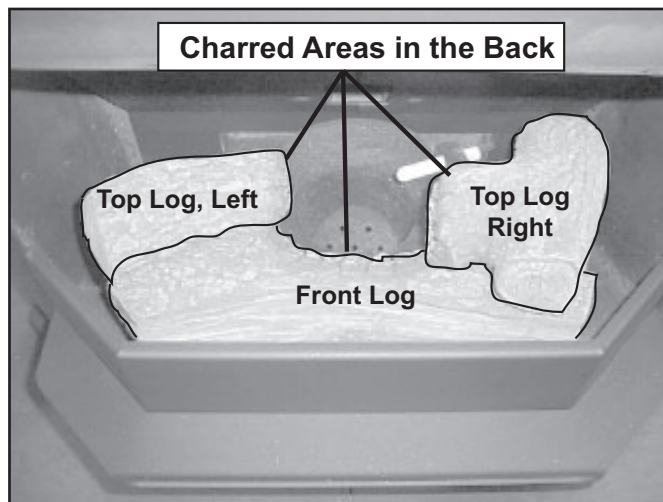

Figure 28.2
2. Set the left and right logs onto the front log, placing the holes in the base of the left and right logs over the locating pins in the front log. See **Figure 28.2**. Ensure that the charred ends are facing the fire pot.